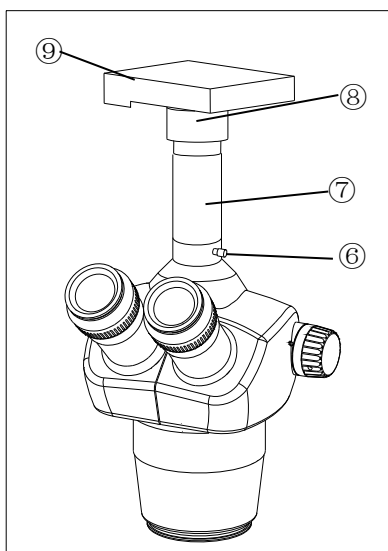

Fig. 6
1. Installing the video set: Remove the dust cap of the trinocular viewing tube, revolve the camera set ⑤ into the screw thread end---the video adapter④ with C mount, and insert the other end into the tri-through port and screw down the bolt⑥.
2. Installing the photography set: Remove the dust cap of the trinocular viewing tube, install the photography accessories⑦ into the tri-through port, and screw down the locking bolts⑥, change the camera⑨ gun with digital photography adapter⑧, and insert the adapter into the accessories, as in Fig 6.